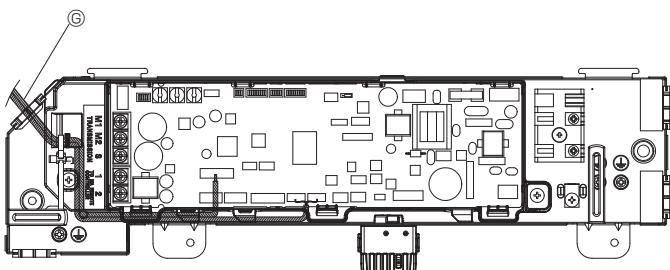

Fig. 5-5
- Insert the lead wire of the optional VALVE KIT into the indoor unit through the wiring insertion port. (Fig. 5-5)